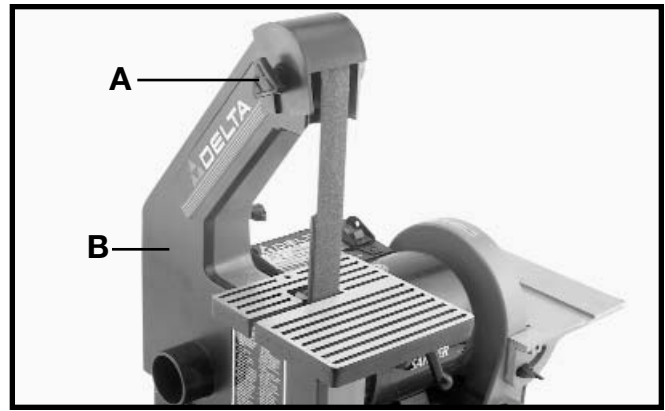

Fig. 23
2. Remove lock knob (A) Fig. 23, and remove side cover (B).